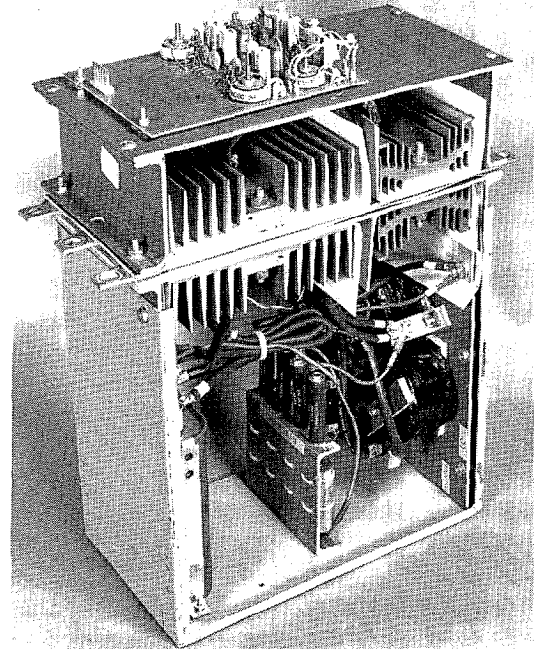

FIGURE 22
2. Stand the phase module on its back side on a 30" high table. The pulse transformer printed circuit card should be on top. (Normally on the front of the module). See Figure 22.